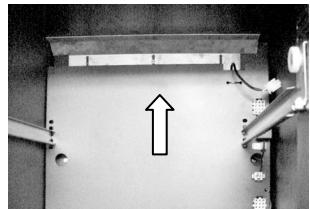

Figure 8: Turning Vane
7. Remove one of two existing Turning Vanes (see Fig.8) located in center opening